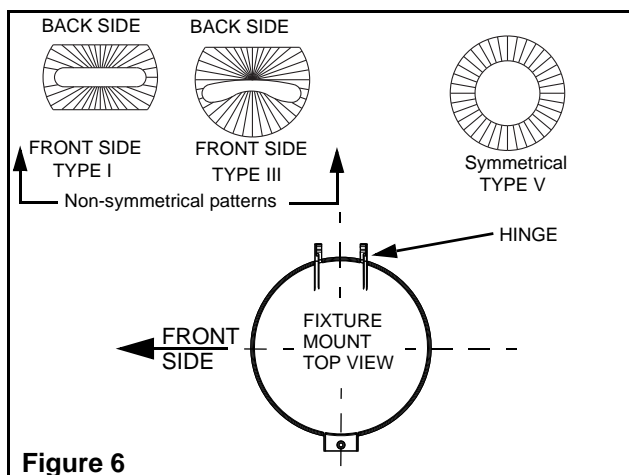
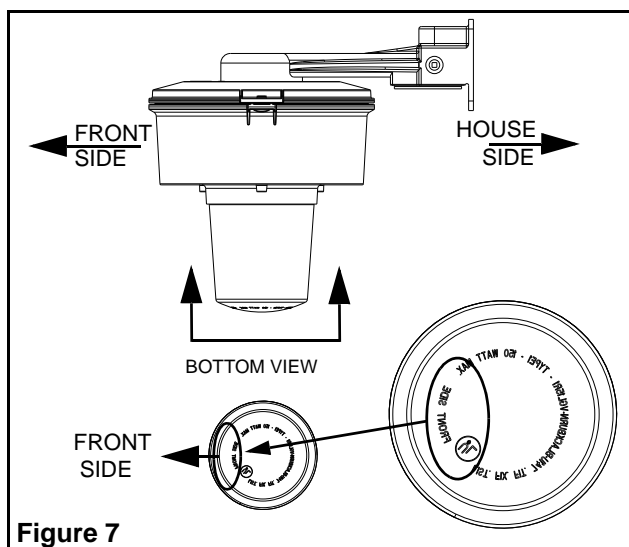

Figure 6
Figure 7
8. Verify that the globe is screwed in the fixture hand-tight. Non-symmetrical refractor globes come pre-aligned in the factory (Figure 6). Fixtures with ceiling mount or pendant mount need to be aligned to the "Front Side" (Figure 6). Globes VGL15R1 and VGL15R3 have the marking "FRONT SIDE" molded in the globe (Figure 7).